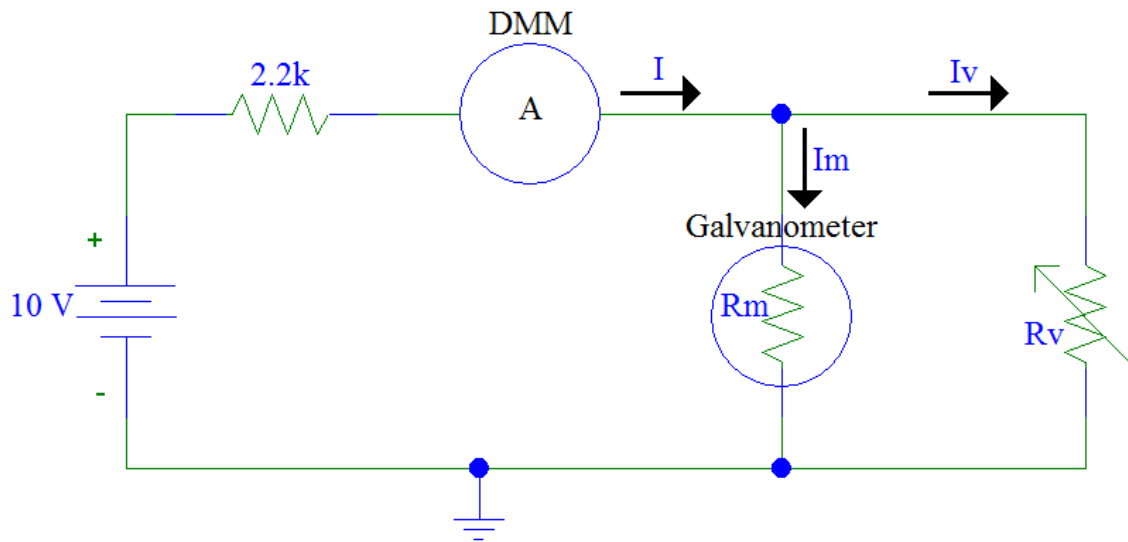

Figure 6: Galvanometer resistance measuring circuit.
- Build the circuit in Fig. 6. This is the circuit that will be used to determine galvanometer resistance.
- We can now solve for meter resistance. R_v is the value set on the decade resistance box, I is the current measured by the DMM ammeter (labeled A in Fig. 6), and I_m is the full-scale galvanometer current 1.0 mA.